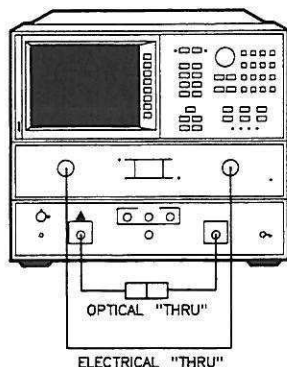

Figure 7. E/O Response Measurement Calibration Connections
6. Make the thru connections shown in Figure 7.